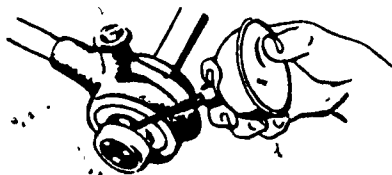

Figure 3. Apply Oil to Threads
**CAUTION:** During cutting, apply thread-cutting oil to threads, die, and conduit every two or three turns, as shown in figure 3. This will prevent damage to pipe threader.